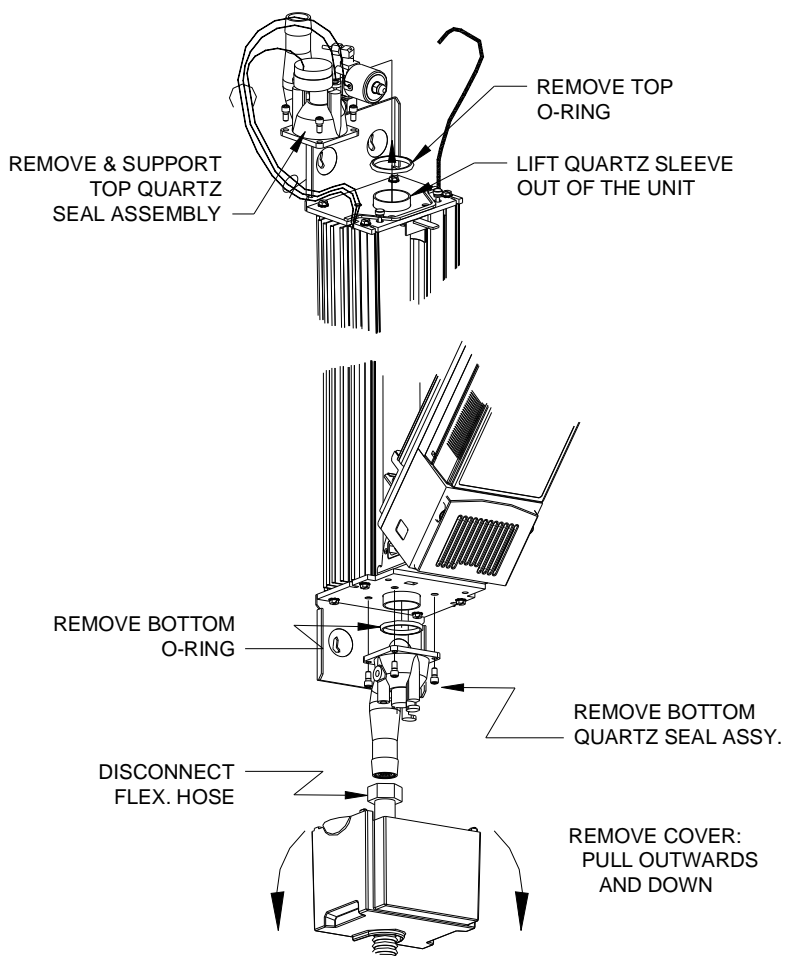

Figure 4D
Step 4: If the quartz is still not clean, it requires replacement. This is done by removing the bottom quartz seal assembly (see Figure 4D).
Step 9: Replace the bottom quartz seal assembly (Figure 4D) by installing the four fasteners in an alternating pattern (top left, bottom right, bottom left, then top right) Ensure that the connection port is at the backside of the unit.